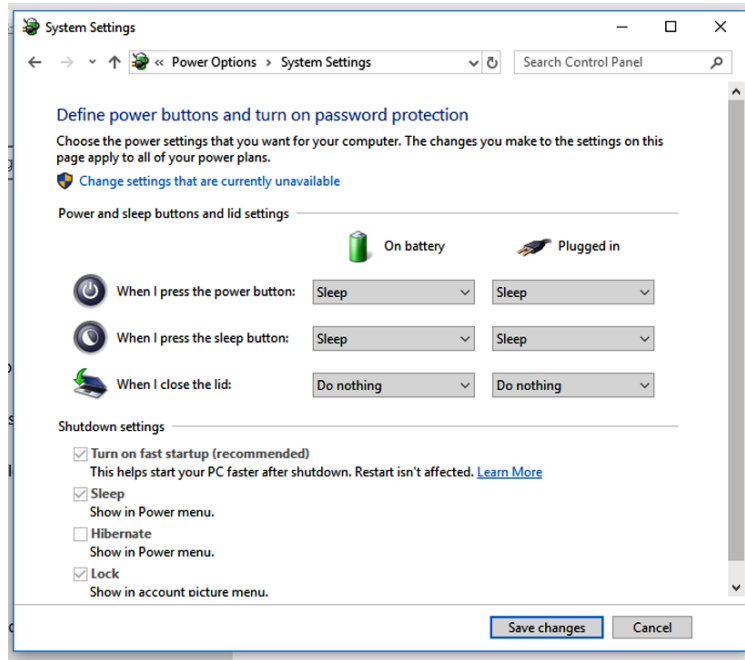

Figure 46: Power Settings For Range Extension
5. Open Control Panel. Select *Power Options* -> *Advanced Options*. In the section for "When I close the lid:" select "Do nothing." Save changes. (fig 46)